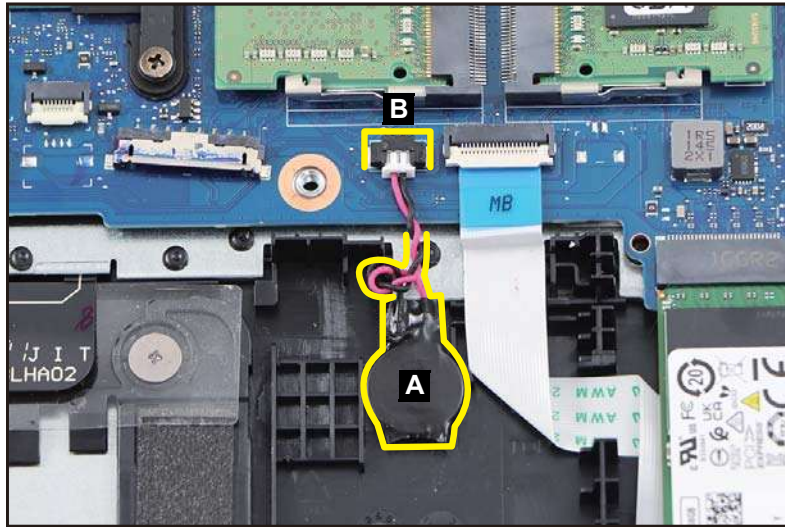

Figure 3-124. Replacing the RTC Battery
1. Align and install the RTC battery (A) onto its slot on the top assembly (Figure 3-124).
2. Route the RTC battery cable through the cable guides as shown in Figure 3-124.
3. Connect the RTC battery cable to the mainboard connector (B) (Figure 3-124).